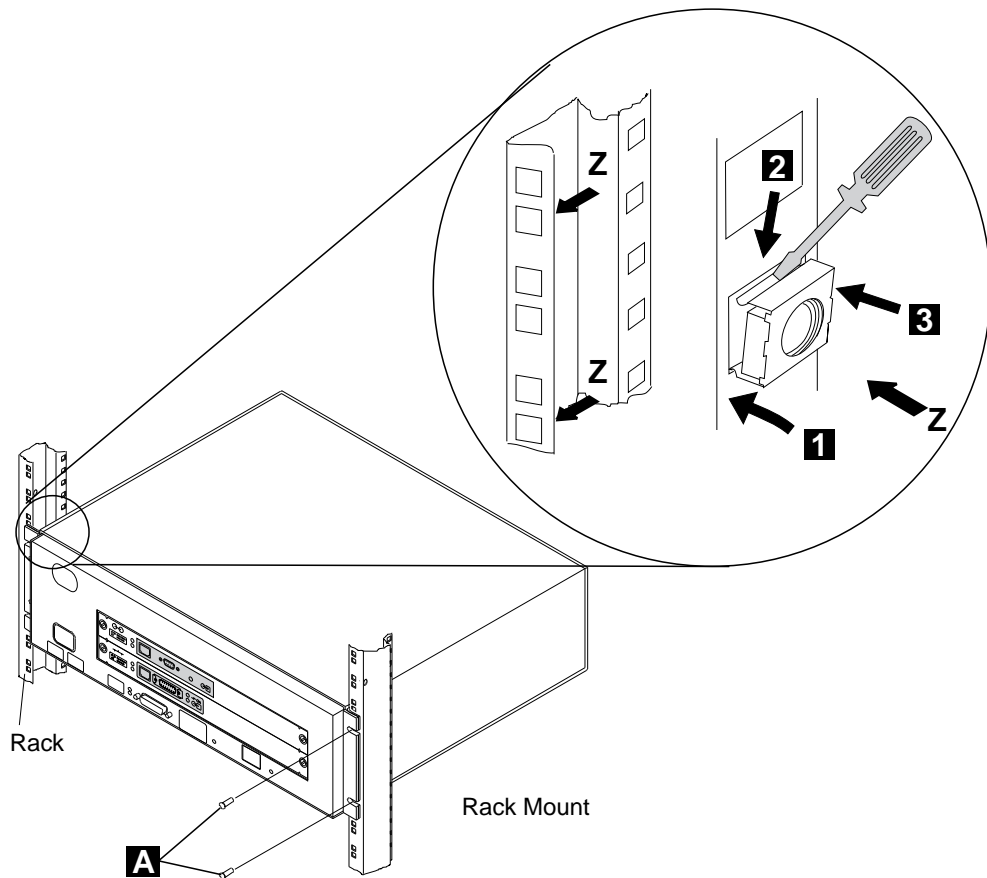

Figure 2-24. Captive Nuts and Ethernet Bridge Installation
- e. ____ Install four captive nuts **3** (PN 58G5766) in the proper locations **Z**, refer to Figure 2-24 on page 2-20.